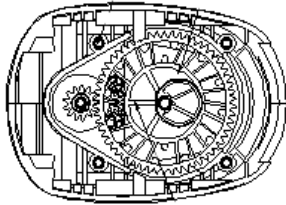
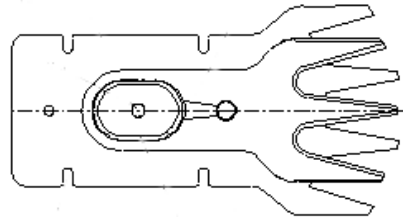

Figure 7
Figure 8
2. Turn the cogwheel so that the marking in the middle points to the left, see figure 7. Make sure that the plastic ring on the grass shears is placed around the raised part of the cogwheel, see figure 8.